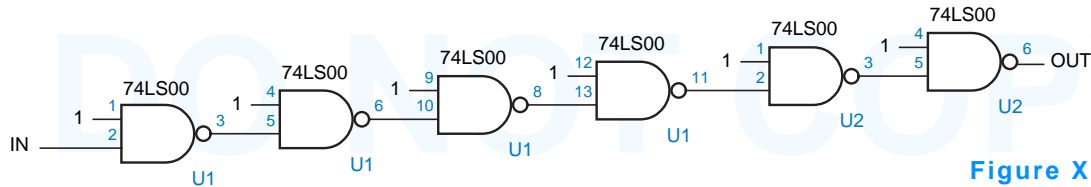

Figure X5.8
- 5.8 Determine the exact maximum propagation delay from IN to OUT of the circuit in Figure X5.8 for both LOW-to-HIGH and HIGH-to-LOW transitions, using the timing information given in Table 5-2. Repeat, using a single worst-case delay number for each gate, and compare and comment on your results.